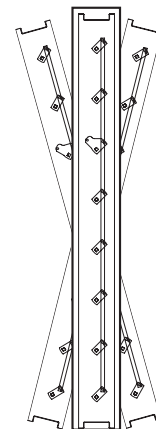

Figure 1
1) Dampers ordered with "nominal" sizing are undersized $\frac{1}{4}$ in. (6mm) to facilitate ease of installation. For example, a 12 in. x 12 in. (305mm x 305mm) nominal damper will measure $11\frac{1}{4}$ in. x $11\frac{1}{4}$ in. Dampers ordered with "actual" sizing are not undersized. The duct or barrier opening that the damper is being mounted in should be $\frac{1}{4}$ in. (6mm) larger than the damper dimensions in both width and height. The opening should also be straight and level (**Figure 1**).